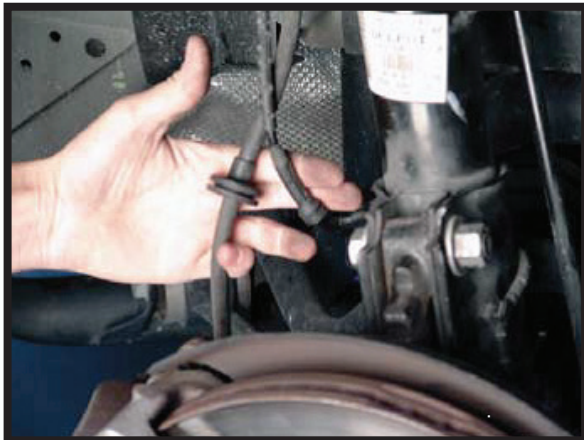

FIGURE 1
4. NEXT, REMOVE THE BRAKE HOSE AND ABS SENSOR WIRE FROM THE RETENTION BRACKET ON THE STRUT. (FIGURE 1)